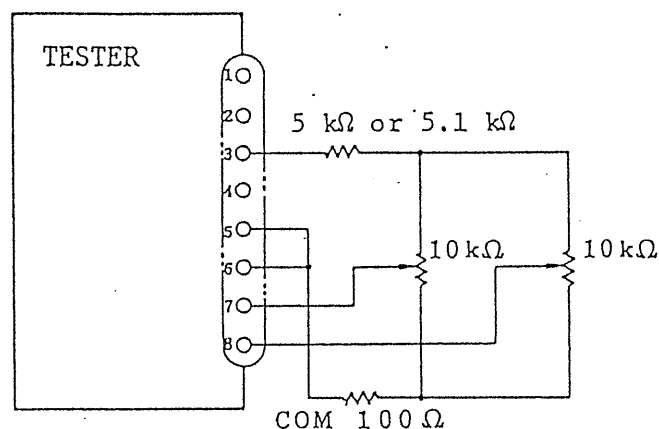

Figure 4.6
*: The -15 V supply can be used to control the GO-NOGO judgement reference value. Prepare a setup as shown in Figure 4.6. Throw the measured-value/reference-value selector switch on the front panel to right or left, and the ohmmeter will indicate the high-limit or low-limit reference value. The values are adjustable with the potentiometers shown in Figure 4.6. When no judgement for the high-limit is needed, make terminal 7 open; when no judgement for low limit is needed, make terminal 8 open.